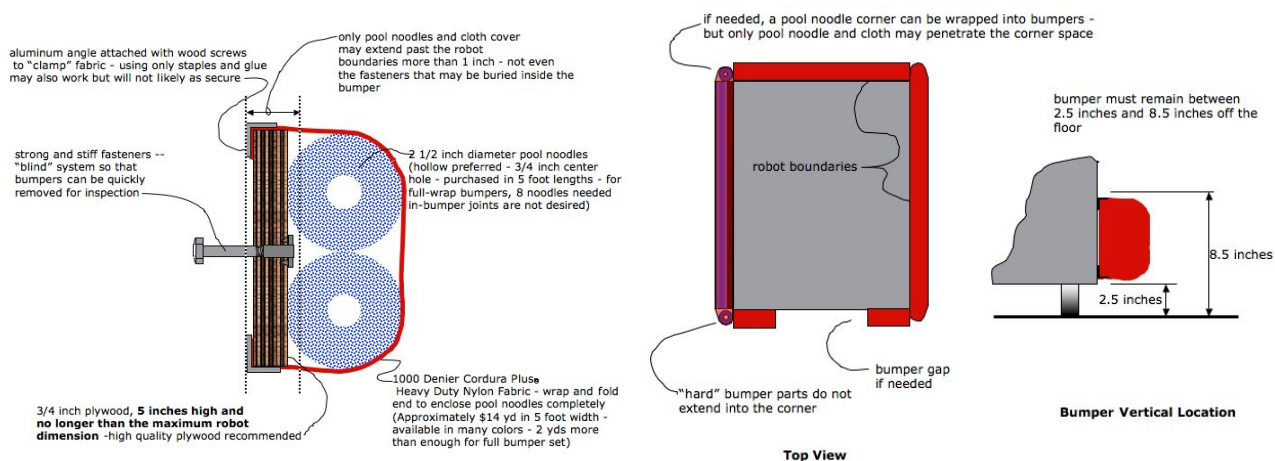

Figure 5-1
- Bumpers must be designed as shown in figure 5-1